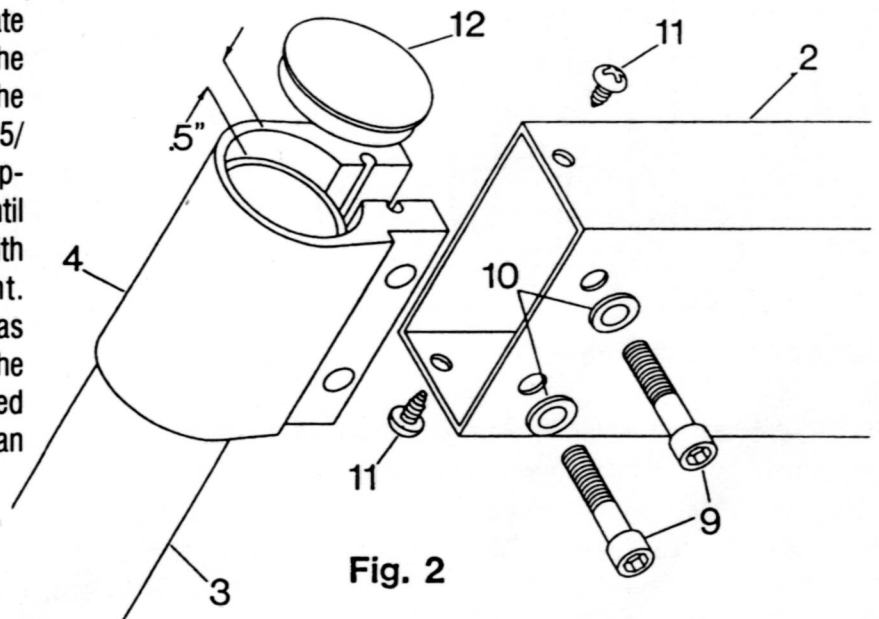

Fig. 2
the handrail away from the display without allowing it to twist to get the proper alignment. If this is difficult, use a 1/2" socket and loosen the 5/16" bolt that holds the black nylon plug underneath the rear foot. This allows easy alignment of the handrail. Screw in the 1/4" screws (9) with the flat washers (10) but do not tighten. Move the upright forward or backward to locate the hand rails 1/2" (inside) from the edge of the clamp (see Fig. 2). If the upright will not move, loosen the 5/16" screws at the base of the upright. Tighten the 1/4" screw until the edge of the clamp is flush with the top surface of the upright. Tighten the four #10 screws (11) as shown. Now the 5/16" screws at the base of the upright can be tightened and the hand rail end caps (12) can be inserted.